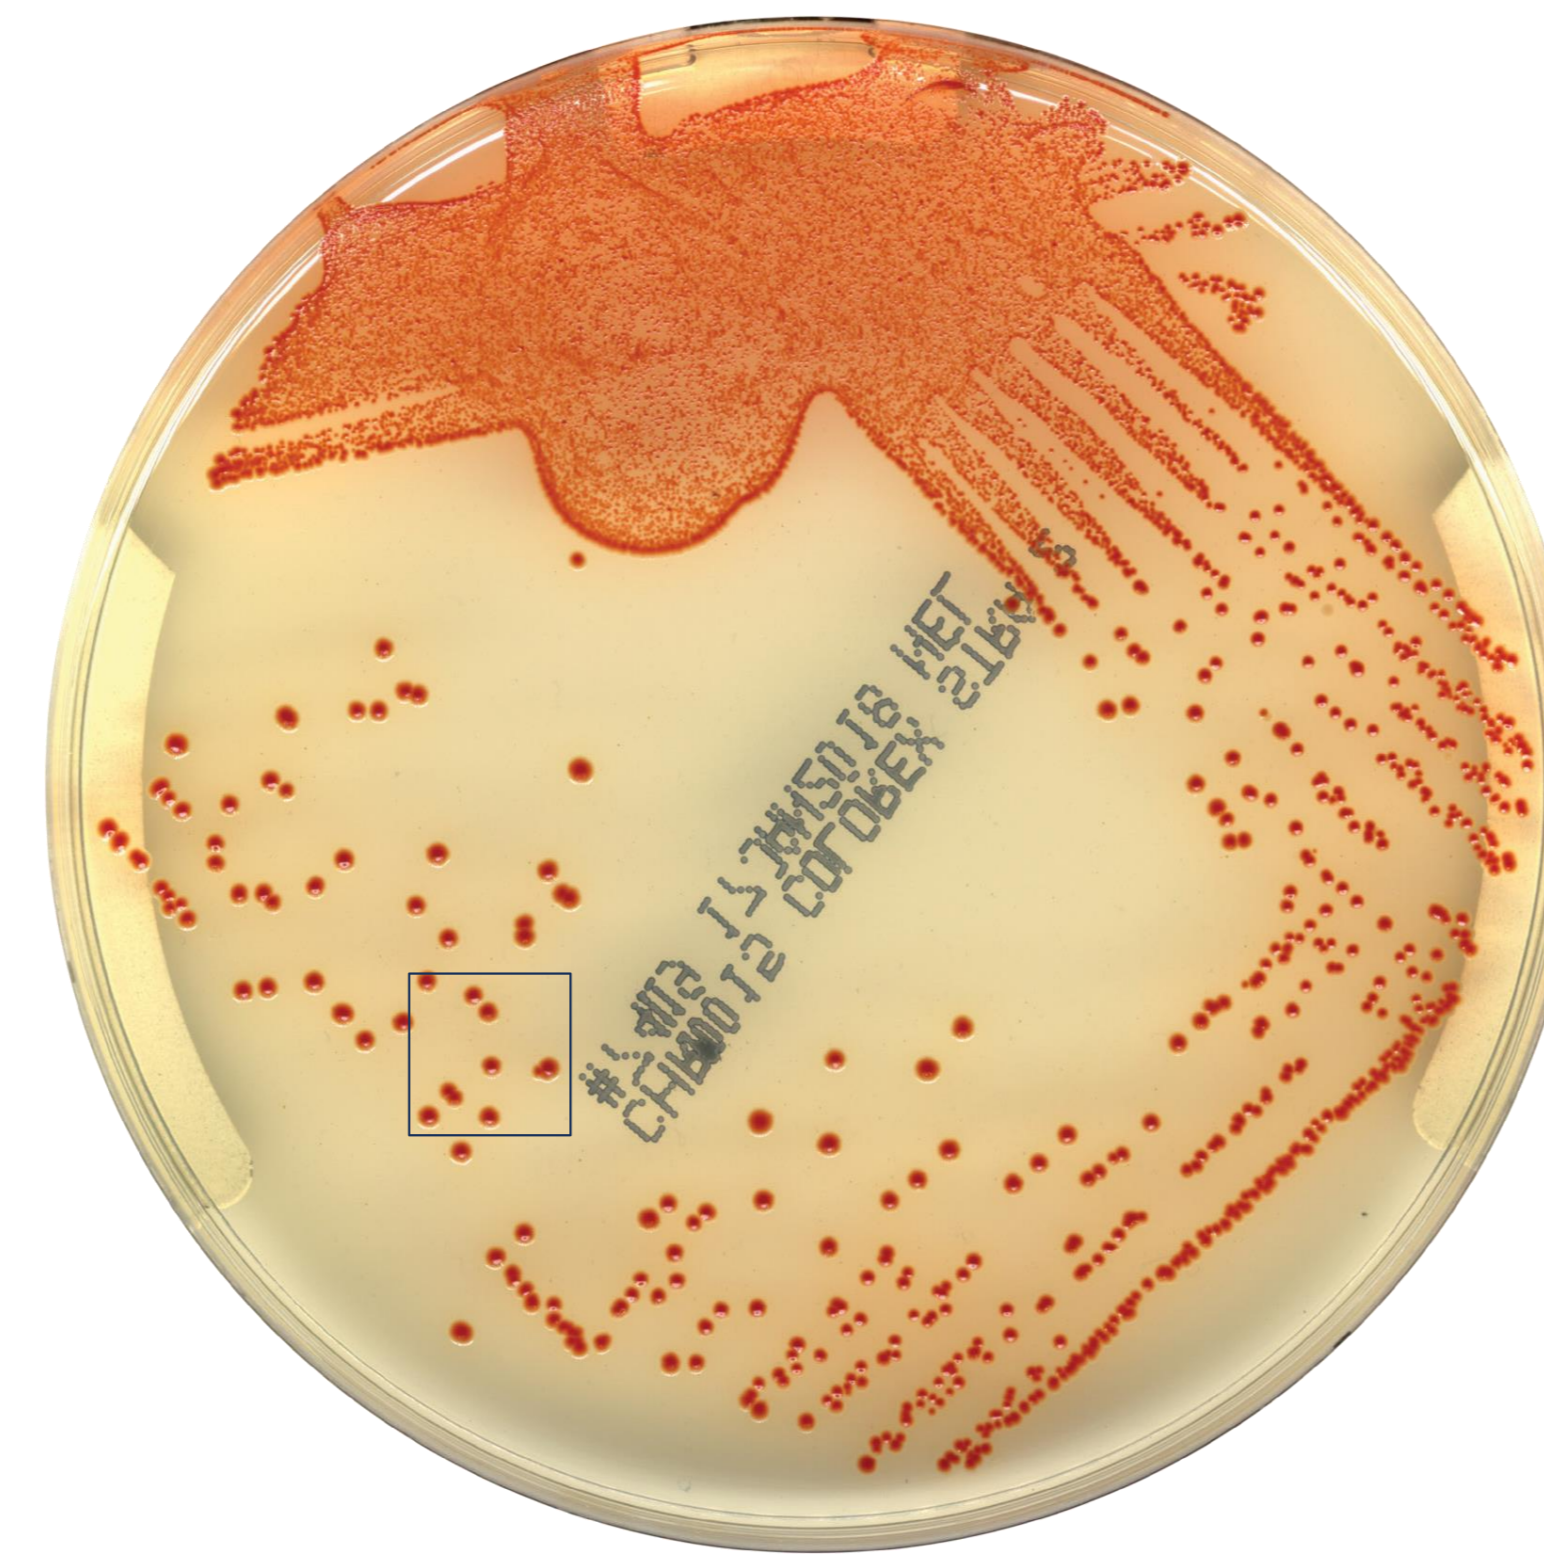

Figure 2. Colorex Strep A Agar, CHROMagar. Orange colonies represent Group A Streptococcus.
- After 24 hours, plates were examined for presence of orange colonies on the Colorex Strep A agar (Figures 2 & 3).